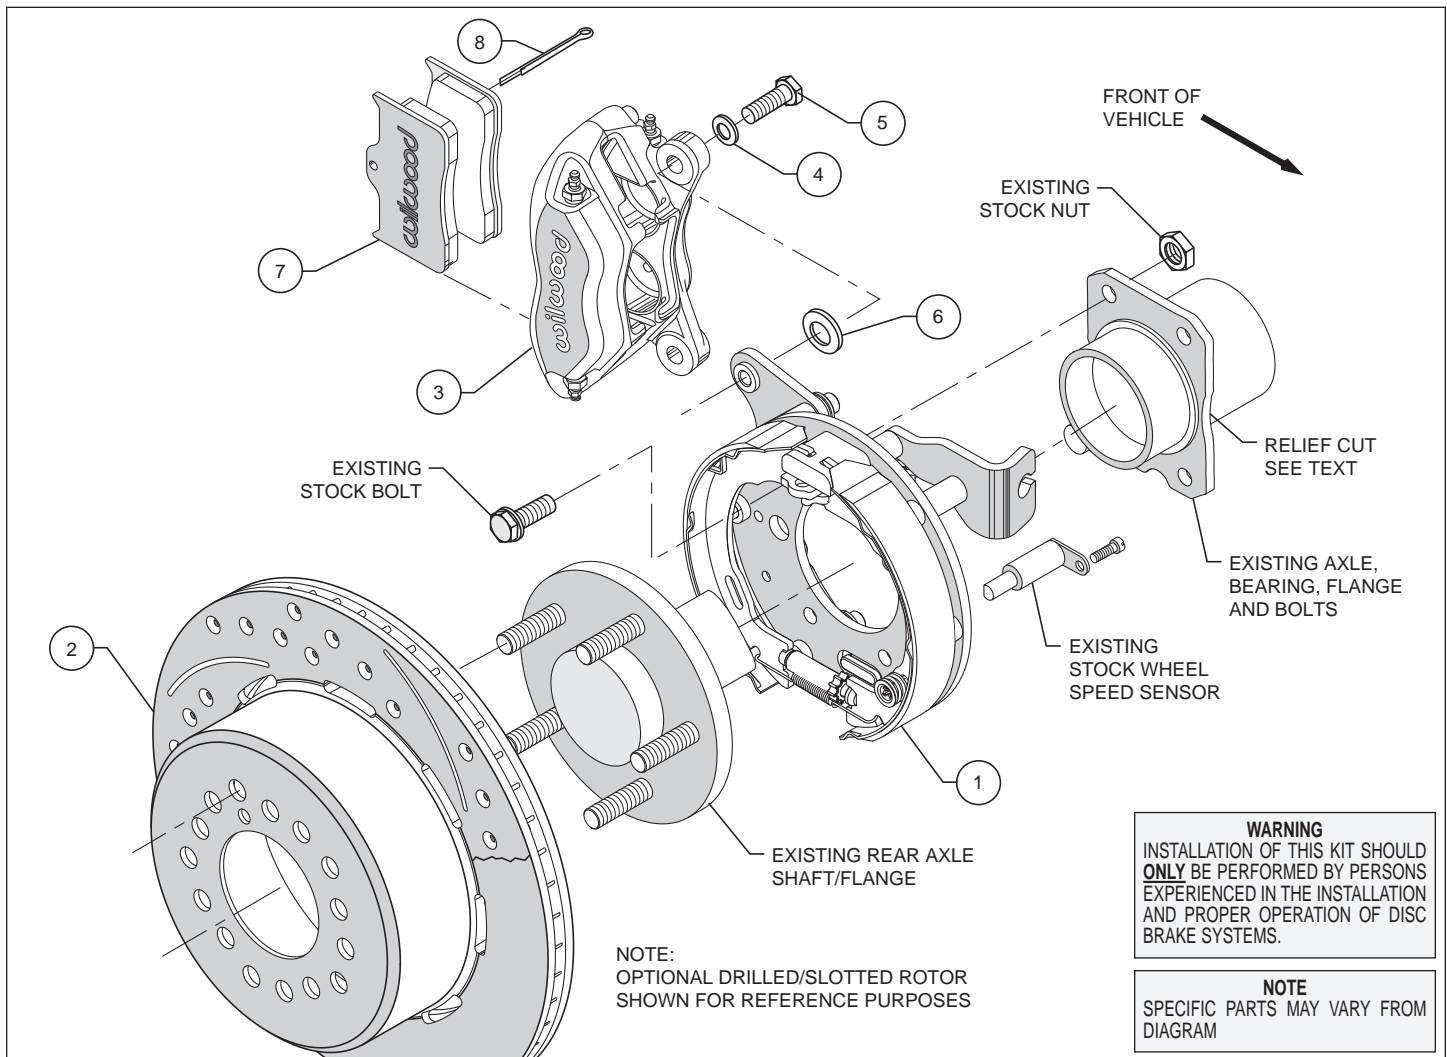
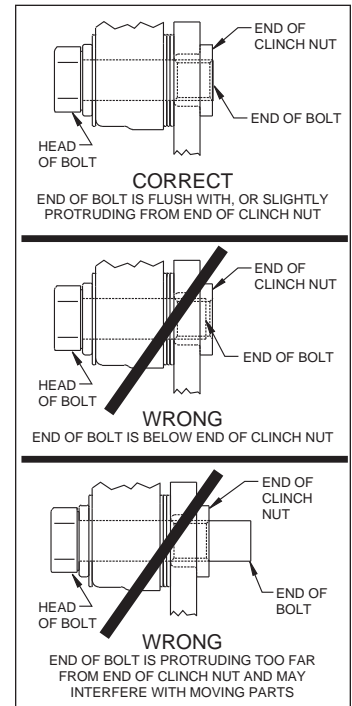

Figure 1. Typical Installation Configuration
Figure 4. Clinch Nut Engagement Diagram
•Orient the bracket assembly (1), as shown in Figure 1, and mount to the axle housing flange using the Original Equipment Manufacturer (OEM) bolts and nuts, Figure 1. Ensure that the bracket assembly backing plate fits flush against the axle housing flange. Apply red *Loctite*® 271 to the OEM bolt threads and torque to OEM specifications.
•Align the correct hole pattern in the rotor (2) with the stud pattern on the axle flange. **NOTE:** Some OEM and after market axles come with stud sizes larger than 0.50" diameter. Verify stud size and have a qualified machine shop drill the bolt circle of the rotor to the correct stud size, if necessary. Slide the rotor over the wheel studs covering the mounting bracket assembly (1) and against the axle flange face, Photo 1.
•**NOTE:** Please reference the caution statement at the beginning of the assembly instructions. Mount the caliper (3) onto the caliper mounting bracket (1) using bolts (5) and washers (4), as shown in Figure 1. Initially place one .035" thick shim (6) on each bolt between the caliper and the bracket, Photo 2. Temporarily tighten the mounting bolts and view the rotor (2) through the top opening of the caliper. The rotor should be centered in the caliper, Photo 3. If not, adjust by adding or subtracting shims between the bracket and the caliper. Always use the same amount of shims on each of the two mounting bolts. **NOTE:** The end of each bolt must be flush with or slightly protruding from the head of the clinch nut, as shown in Figure 4. If necessary place spare shims between washer (4) and caliper mounting ear to achieve the proper clinch nut engagement. Once the caliper alignment and clinch nut engagement are correct, remove the bolts one at a time, apply red *Loctite*® 271 to bolt threads, and torque to 40 ft-lb.